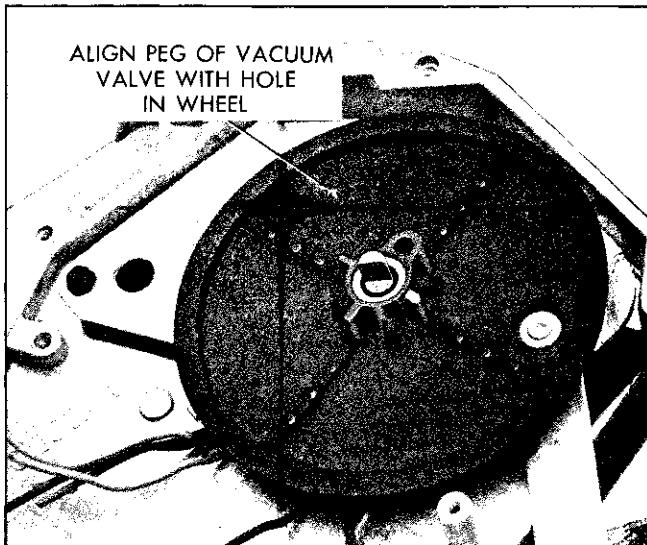

Fig. 1B-10 Aligning Programmer Wheel
2. Install program wheel so that peg on vacuum valve is visible through alignment hole in program wheel (Fig. 1B-10). It may be necessary to move the vacuum valve slightly to accomplish this.